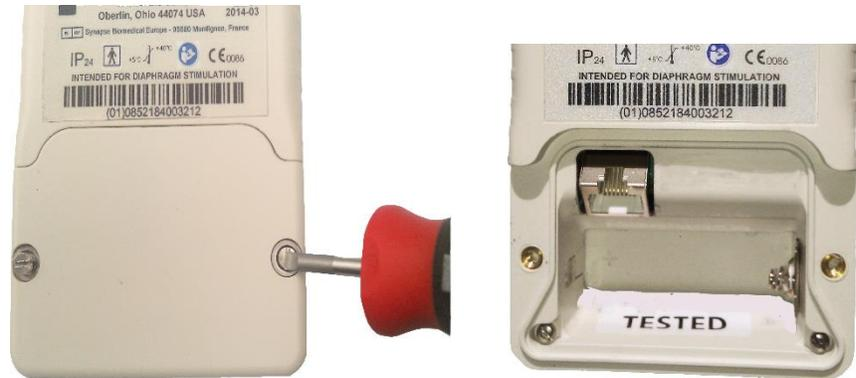

Figure 25.
2. Use the provided flat blade screwdriver to loosen the screws on the back bottom of the NeuRx EPG. Remove the battery cover located on the back bottom of the NeuRx EPG (Figure 25).